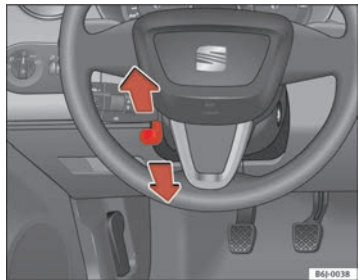

Fig. 99 Steering column height adjustment
- Push the lever under the steering column ⇒ fig. 99 down ⇒ ⚠.
- Adjust the steering wheel until the correct position is set ⇒ fig. 99.
- Adjust the driver seat or steering wheel so that there is a distance of at least 25 cm between the steering wheel and your chest ⇒ fig. 99. If you fail to observe the minimum distance, the airbag will not protect you. Risk of fatal injury.